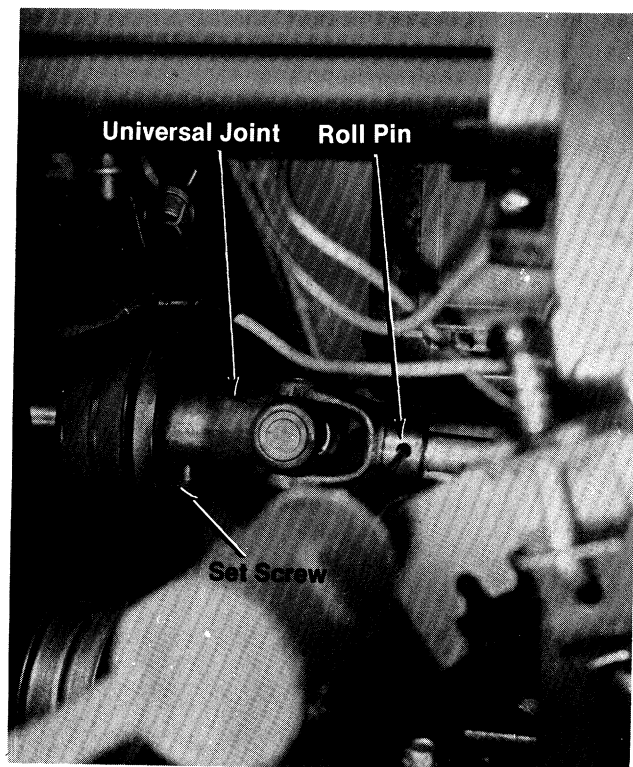

FIGURE 24.
3. Loosen the set screw in the universal joint. (See figure 24.)
4. Drive out the roll pin in the universal joint. (See figure 24.)